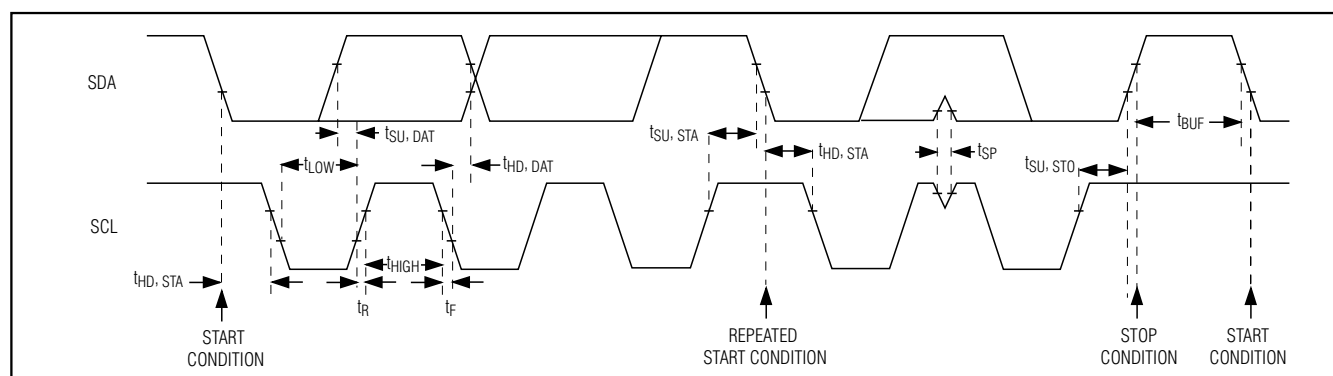

Figure 10. I²C Serial Interface Timing Diagram
The MAX9526 features an I²C/SMBus™-compatible, 2-wire serial interface consisting of a serial-data line (SDA) and a serial-clock line (SCL). SDA and SCL facilitate communication between the MAX9526 and the master at clock rates up to 400kHz. Figure 10 shows the 2-wire interface timing diagram. The master generates SCL and initiates data transfer on the bus. The master device writes data to the MAX9526 by transmitting the proper slave address followed by the register address and then the data word. Each transmit sequence is framed by a START (S) or REPEATED START (Sr) condition and a STOP (P) condition. Each word transmitted to the MAX9526 is 8 bits long and is followed by an acknowledge clock pulse. A master reading data from the MAX9526 transmits the proper slave address followed by a series of nine SCL pulses. The MAX9526 transmits data on SDA in sync with the master-generated SCL pulses. The master acknowledges receipt of each byte of data. Each read sequence is framed by a START or REPEATED START condition, a not acknowledge, and a STOP condition. SDA operates as both an input and an open-drain output. A pullup resistor, typically greater than 500 Ω , is required on SDA. SCL operates only as an input. A pullup resistor, typically greater than 500 Ω , is required on SCL if there are multiple masters on the bus, or if the single master has an open-drain SCL output. Series resistors in line with SDA and SCL are optional. Series resistors protect the digital inputs of the MAX9526 from high-voltage spikes on the bus lines, as well as minimize crosstalk and undershoot of the bus signals.